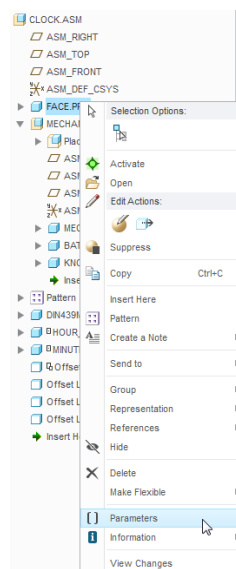

Figure 7: Selecting Parameters for FACE.PRT.
- 1) Select a part in the assembly, hold **RMB** and select **[P] Parameters** (Figure 7)